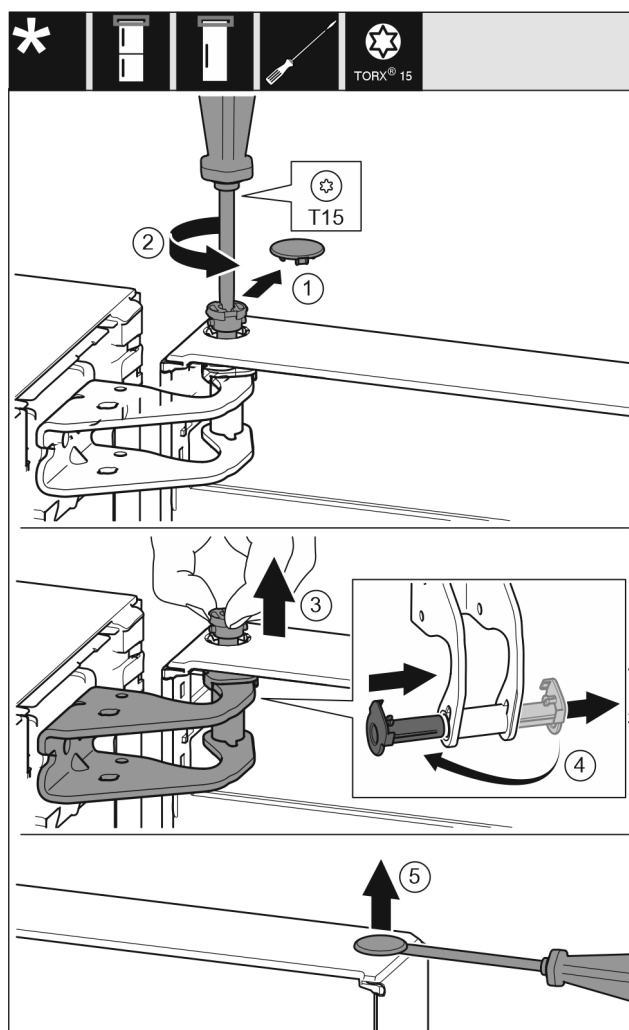

Fig. 8
- Carefully remove the protective cover. Fig. 8 (1)
- Loosen the bolts slightly with a T15 screwdriver. Fig. 8 (2)
- Hold the door and remove the bolts with your fingers. Fig. 8 (3)
- Pull the bearing bush out of the guide. Insert from the other side and latch into place. Fig. 8 (4)
- Carefully lift the plugs out of the door bearing bush with a slotted screwdriver and remove them. Fig. 8 (5)